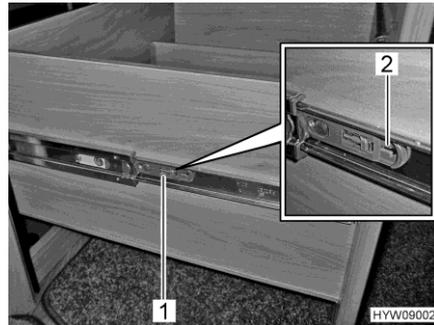

Fig. 131 Counter drawer
- On both sides of the counter drawer, pull the tongue (Fig. 131,1) in the direction of the arrow (Fig. 131,2). The counter drawer can then be pulled out beyond its stop.